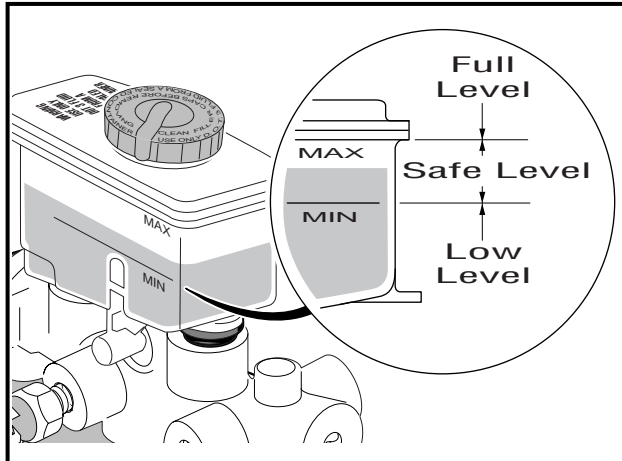

Figure 6-23 Master Cylinder Reservoir
NOTE: Do not allow the brake fluid in the master cylinder reservoir (**Figure 6-23, Page 6-31**) to drop below the "MIN" level mark at any time during the brake bleeding procedure. Add brake fluid as necessary while performing step 11.
14. Fill the master cylinder reservoir to the "MAX" level with DOT 5 brake fluid (**Figure 6-23, Page 6-31**).